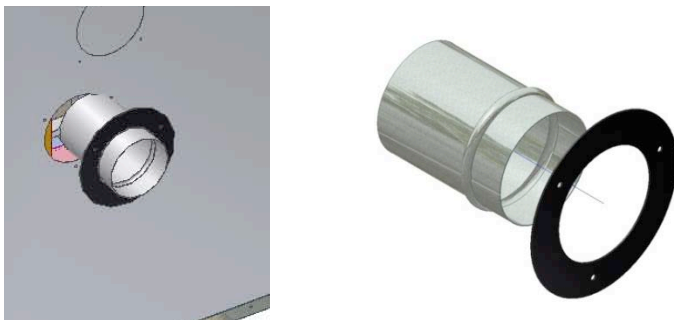

Figure 12
- Insert the fresh air adaptor (Figure 12).